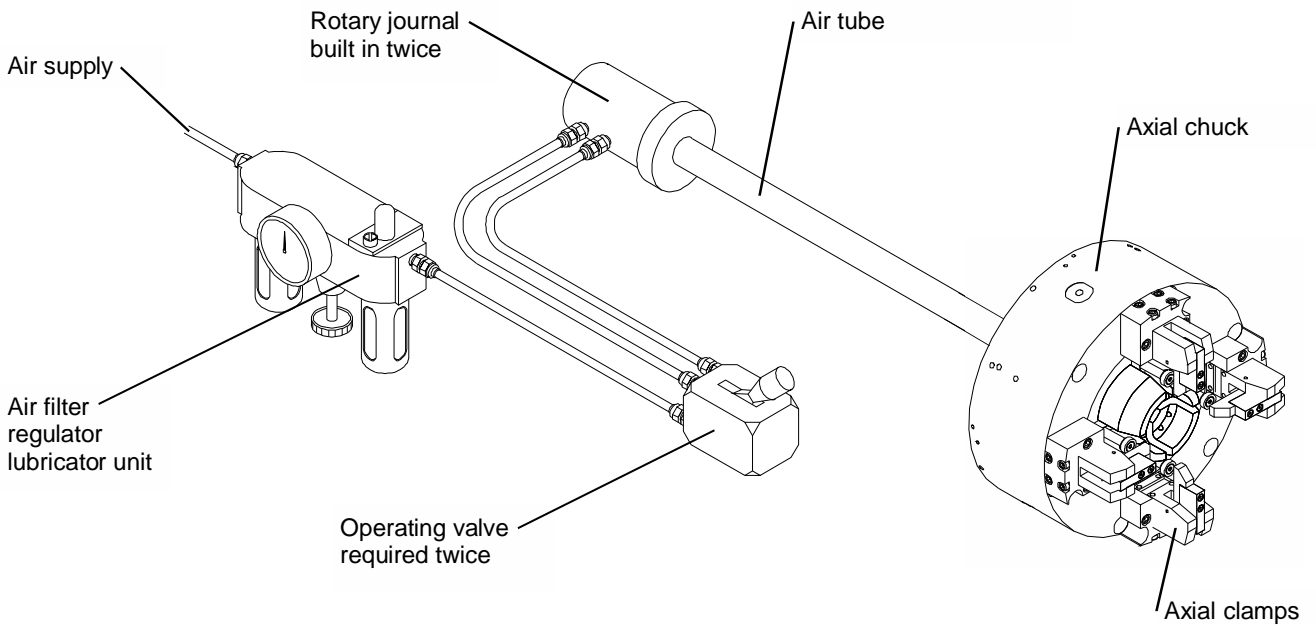

Fig. 1.2
4. Connect control valves, air tube hoses and the air filter-regulator-lubrication unit according Fig. 1.2 and 1.3 carefully.